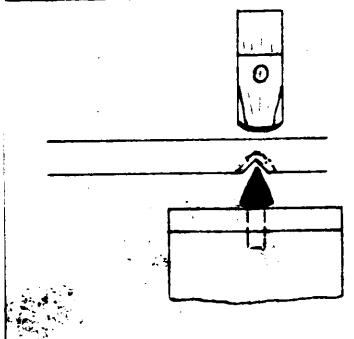
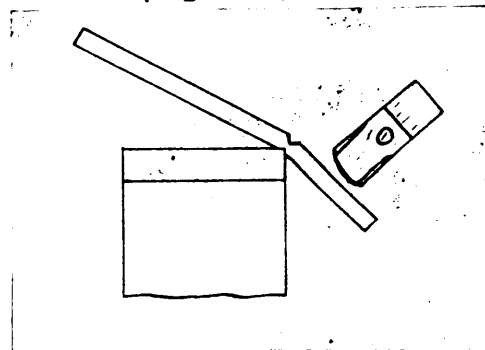
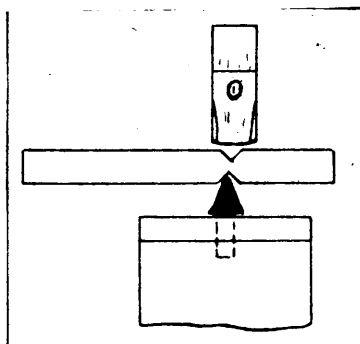

Figure 1.
Figure 2.
Figure 3.
3. Place stock over hardie, and deliver the blows at that point. (Figure 1) Cut about two-thirds through and then place cut edge of stock on edge of anvil and break off. (Figure 2).
4. To make a smooth break, do as shown in Figure 1, except cut about one-fourth of the thickness. Then reverse sides, Figure 3, and cut about one-fourth of the thickness. Break off as shown in Figure 2. In cutting, you may substitute the cold chisel, or cold cutter for the hardie.